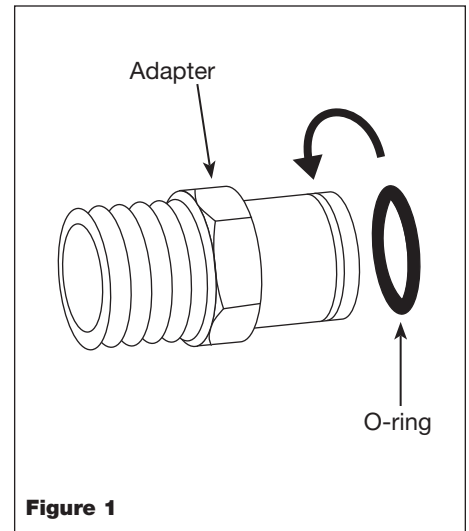

Figure 1
MECHANICAL INSTALLATION (SEE FIGURES 1 - 4)
3. Install the o-ring in groove on the adapter (See Figure 1).